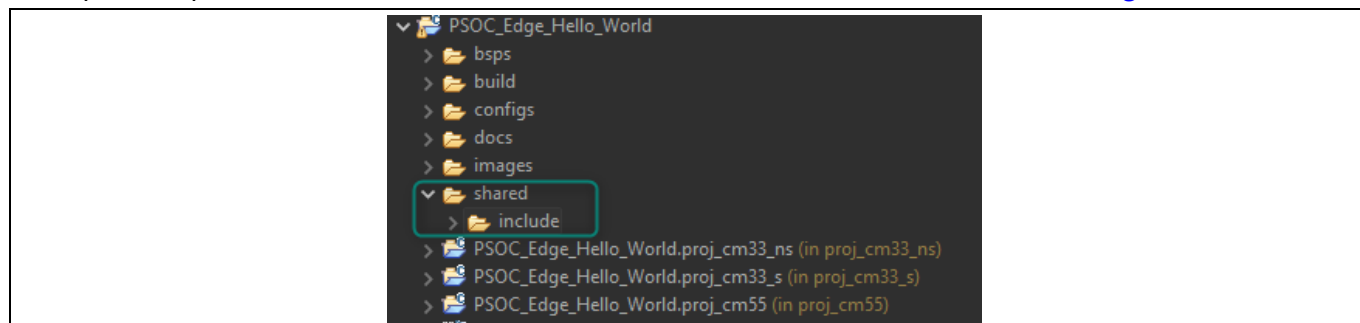

Figure 25 Shared folders
2. Repeat the process to create an **include** folder inside **shared** folders should look as in Figure 25